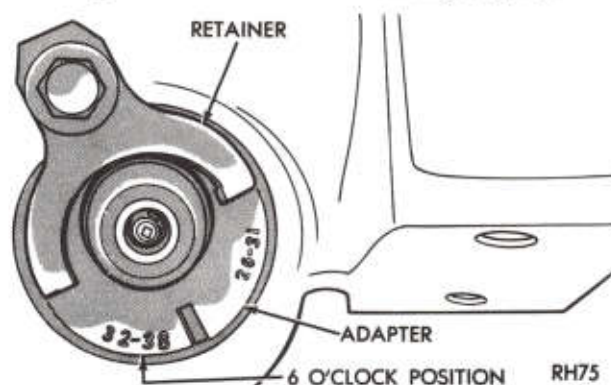

Fig. 1—Speedometer Installed
(1) Place drain pan under speedometer adapter.
(2) Remove bolt and retainer securing speedometer pinion adapter in the extension housing (Fig. 1).